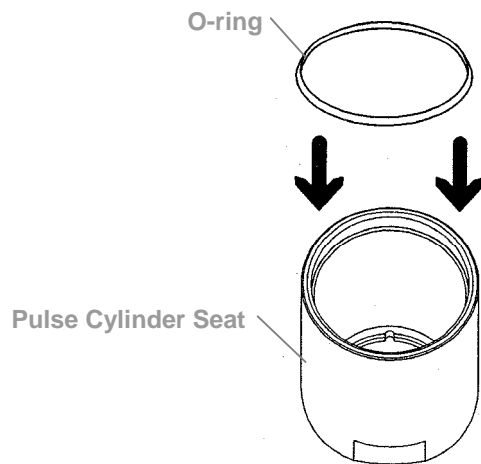
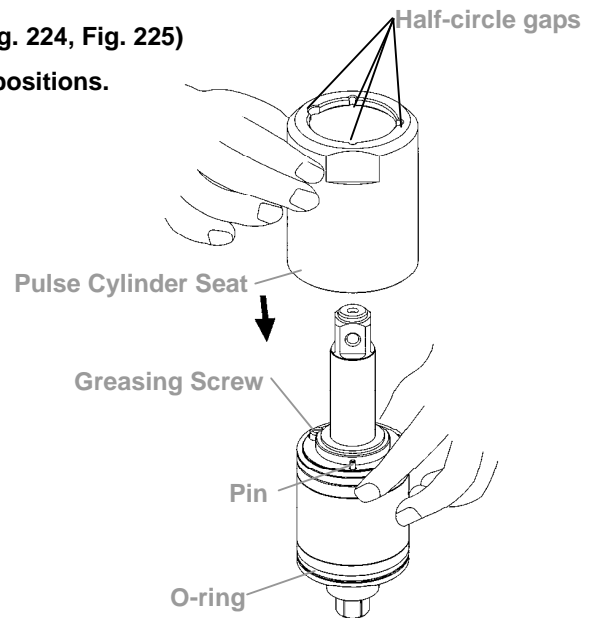

Fig. 224
Fig. 225
(4) Pulse Cylinder Seat and Lock Nut of Pulse Cylinder Assembly
- ① Place the o-ring inside the bottom of the pulse cylinder seat, then combine the pulse cylinder seat with the assembled pulse cylinder unit. (Fig. 224, Fig. 225)